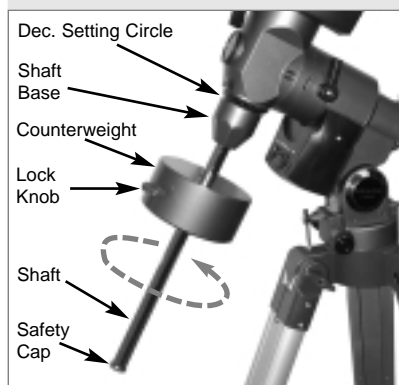

Fig. 6: Attach Counterweight assembly.
5. **Attach the counterweight(s) to the counterweight shaft:** Place the counterweight shaft base (**20, Fig. 1d**) over the threaded end of the shaft (**22, Fig. 1d**). Thread the shaft and base assembly into the hole beneath the Dec. setting circle as depicted in **Fig. 6**.